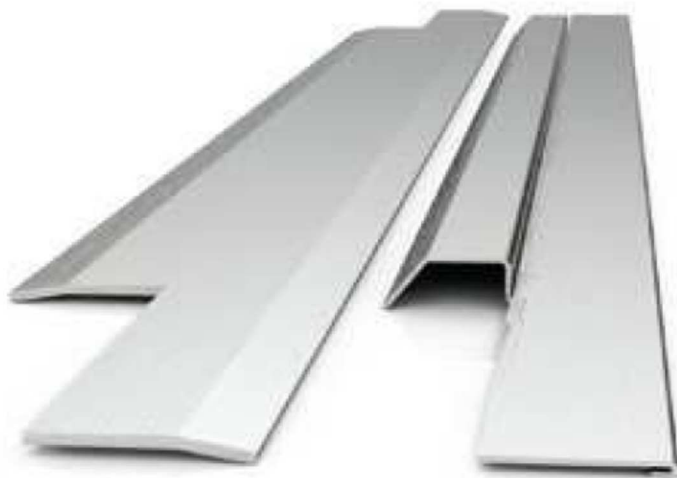

Fig 7
- Some threshold may need a notch cutting at either end around the rebate of the frame. All thresholds are installed between the jambs of the frame. Fig 7